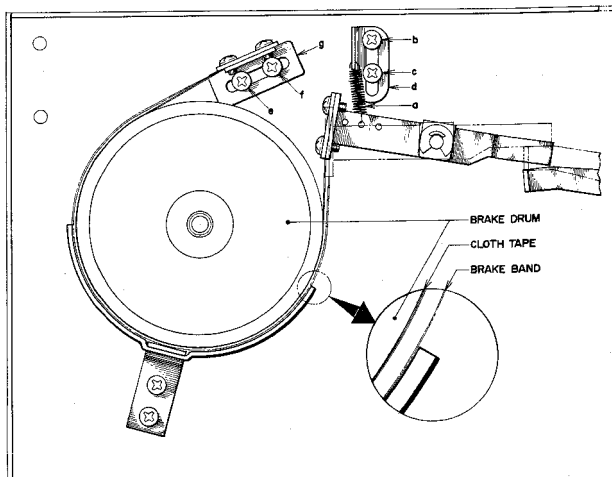

Fig. 18
- 2) Brake tension adjustment can be made as follows: (Refer to Fig. 18)
- d) Only the left side is shown in Fig. 18, but the right side must be adjusted in the same way.
NOTE: In making brake tension adjustment, at all modes except stop mode, confirm that the brake band completely separates from the cloth tape on the brake drum. (Refer to Fig. 18)